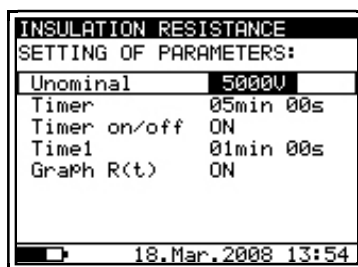

Fig. 15. Set-up menu of the Graph R(t)
- Press the SELECT key to Set-up the parameters of the graph R(t), see the Fig. 15. Press the ESC key to return to basic Set-up menu in the Insulation Resistance function.